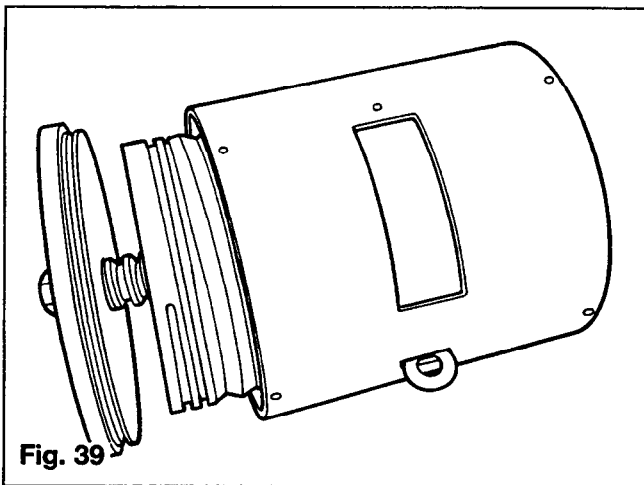

Fig. 39
10. Remove end cover and ball screw-reel assembly by pushing on the piston end of the ball screw (Figure 39).